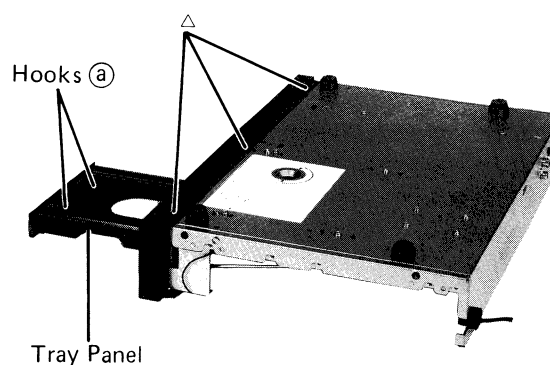

Figure 6
- (1) Open the disc tray.
- (2) Remove two hooks (a) as shown in Figure 6.
- (2) Remove five screws marked "△" as shown in Figures 6 and 7.
- (3) Then remove display P.C. Board, timer play P.C. Board and phone level P.C. Board with the front panel.
- (4) Disconnect all wires from these P.C. Boards.